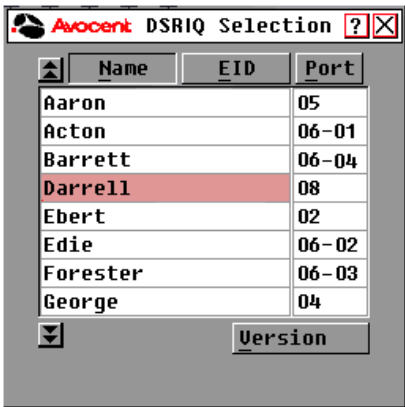

Figure 3.20: DSRIQ Selection Dialog Box
3. To view individual DSRIQ module version information, click *DSRIQ* to open the DSRIQ Selection dialog box shown in Figure 3.20.
3. Click *DSRIQ* to open the DSRIQ Selection dialog box shown in Figure 3.20.